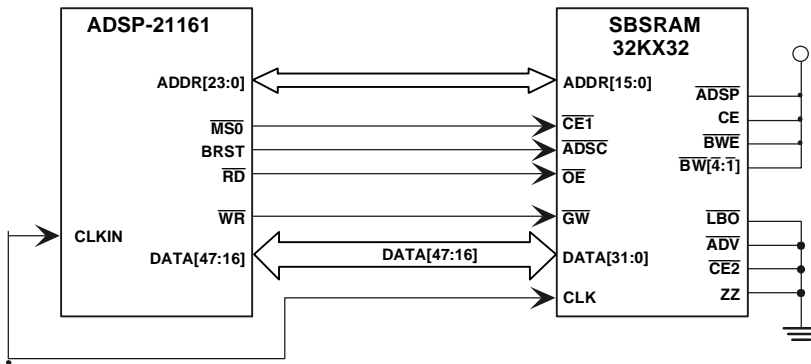

Figure 7-15. SBSRAM System Interface Example
Table 7-3 and Figure 7-15 show how the DSP I/O should be connected to the SBSRAM I/O. Table 7-3 assumes a 512 Kbyte SBSRAM array consisting of one bank with a 3.3V, 32K x 32 device. The names of the SBSRAM signals may vary from between vendors.
**Figure 7-15** is for illustrative purposes—actual system designs may differ and must be carefully analyzed to determine the actual system topology.
All other signal inputs held static per <a href="#">Figure 7-15</a>